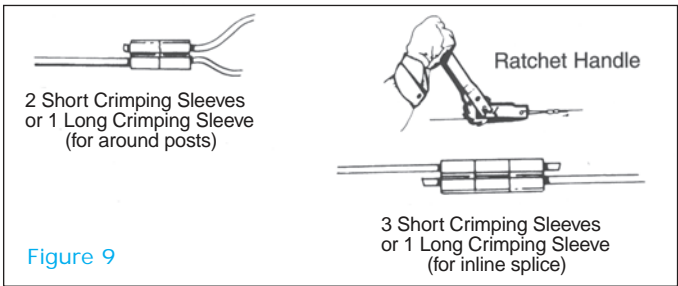
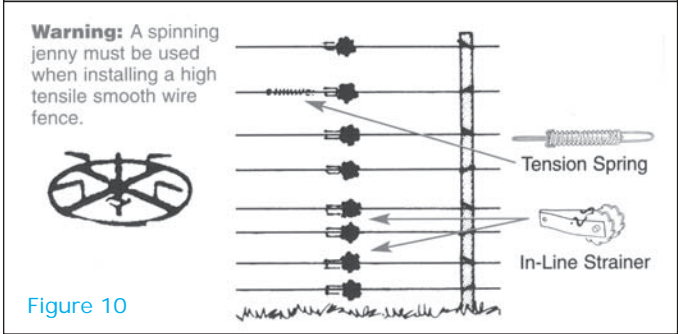

Figure 9
Figure 10
length of the fence to the next brace post. (Figure 10) Put a crimp sleeve on the wire (don't compress yet) then slide the wire through the wrap-around insulator. Wrap the insulated wire around the end post and compress the crimp sleeve. (Figure 9) Staple the wrap-around insulator to the end post.
8. Install a tension spring with one of the in-line strainers per section. This will help you gauge the wire tension. If the tension spring is nine inches; proper tension of 250 pounds has been reached when the spring is compressed to seven inches. If your tension spring has two notches; the first notch indicates 150 pounds and the second notch indicates 250 pounds of tension. (Figure 10)